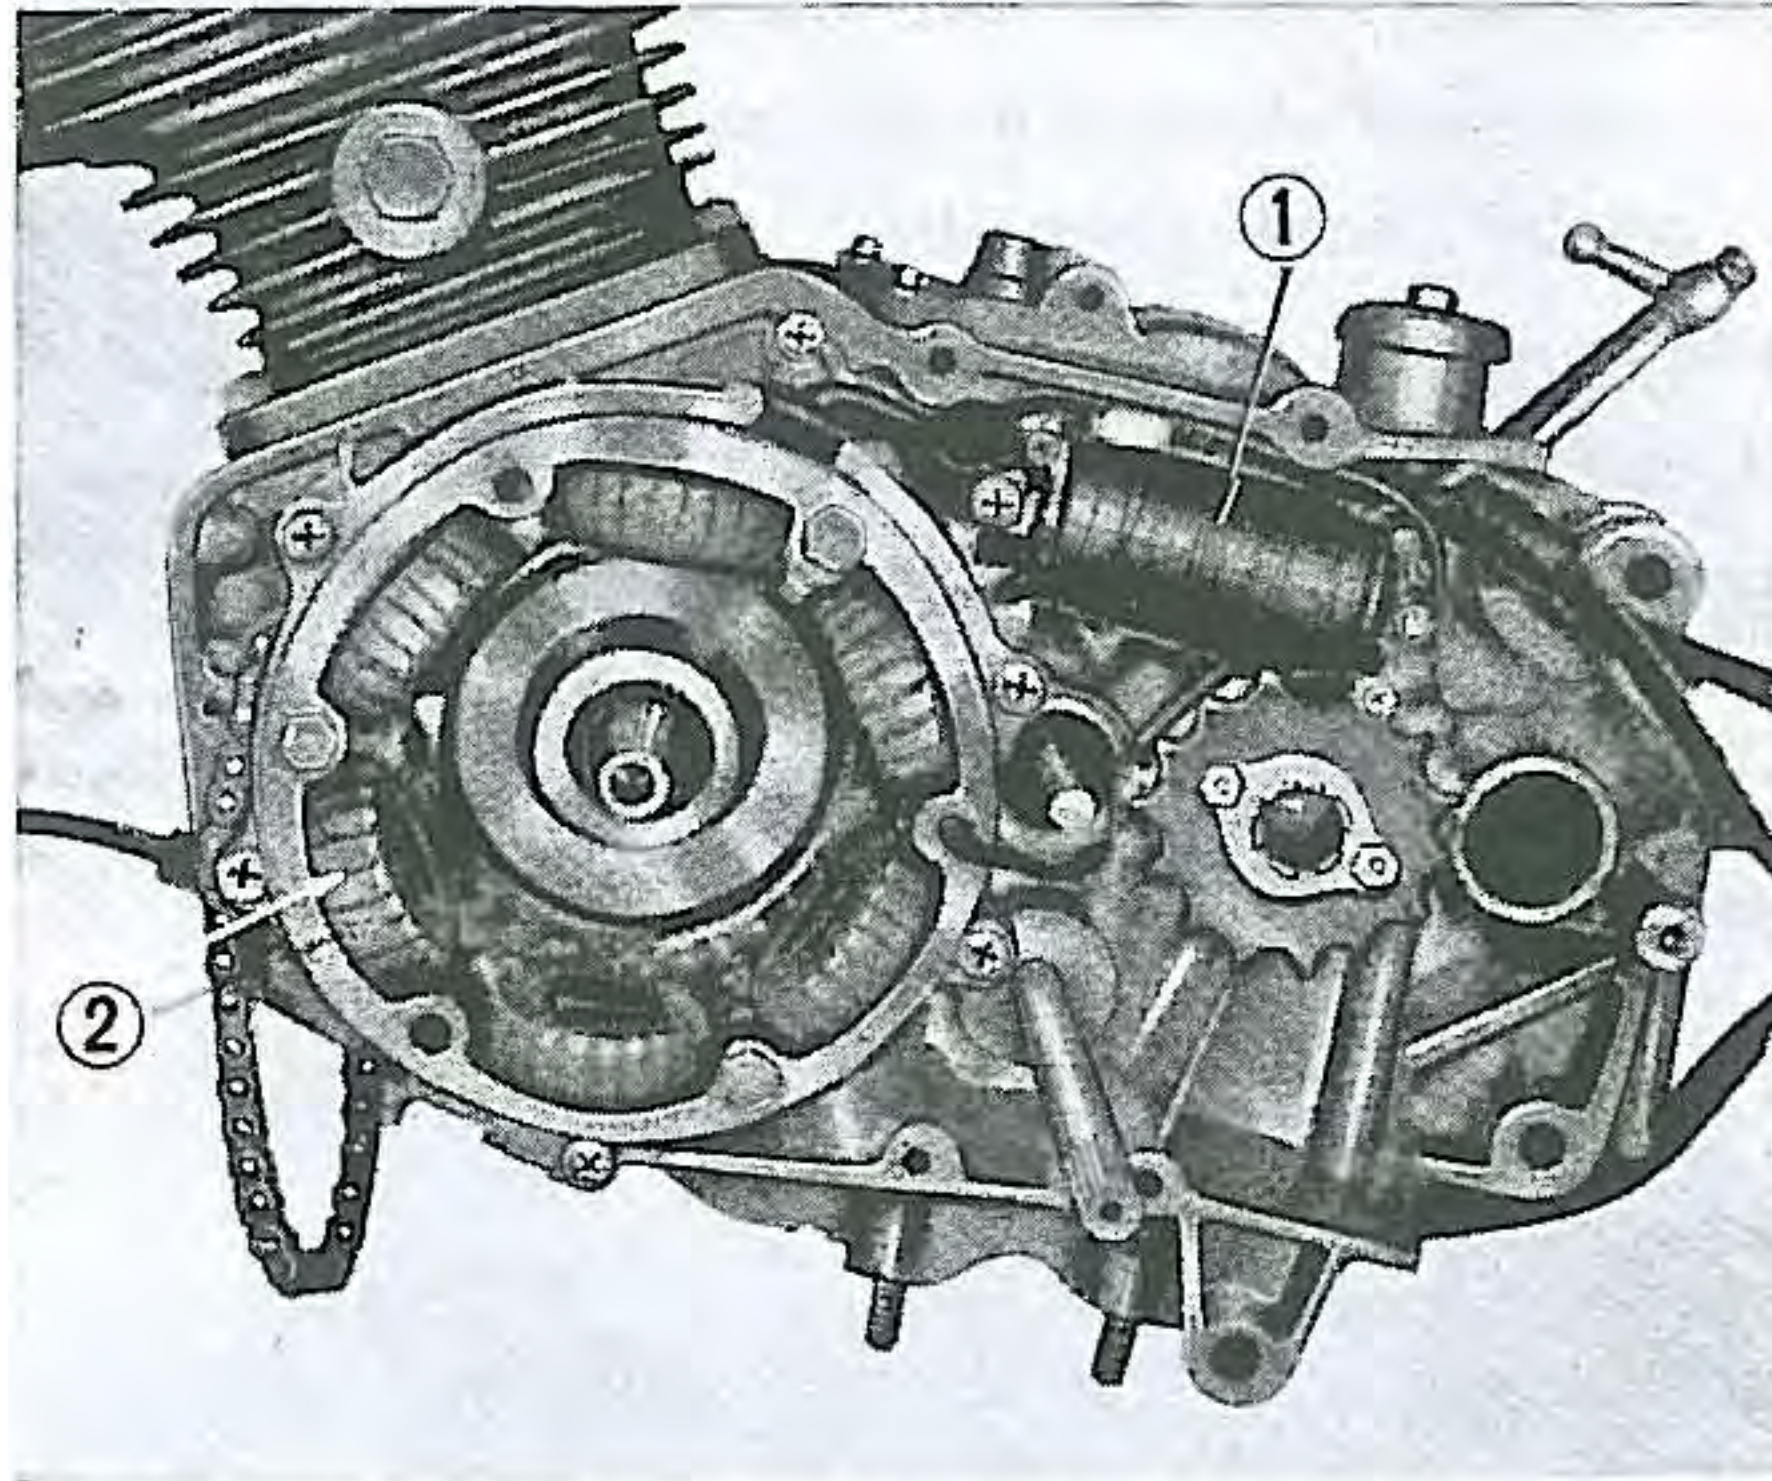

Fig. 27. Location of ignition coil and A. C. dynamo
- (5) Remove the ignition coil, (① in Fig. 27) attached on the left side of crank case for only engines up to the serial number C92E-937064.